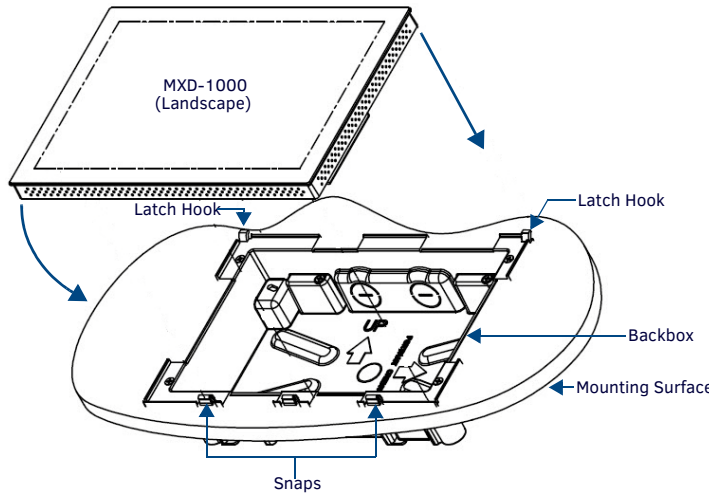

FIG. 5 INSTALLING THE MXD-1001
- Latch the panel onto the top hooks on the Backbox and push it down (Landscape) onto the bottom snaps or on the left side and push it to the right (Portrait) (FIG. 5). Press gently but firmly on the ends until the snaps "click" to lock it down.